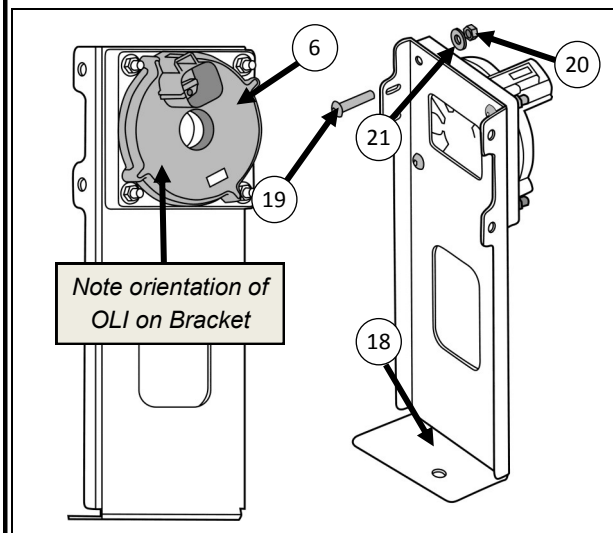

Figure 10: Install OLI onto Bracket
- Install OLI (Item 6) in correct orientation as shown in Figure 10 onto OLI Bracket (Item 18) using 4X Screw M5 x 0.8P x 25 (Item 19), 4X Washer Flat M5 (Item 21) and 4X Nut M5 Nyloc x 0.8P (Item 20)
NOTE:	Ensure that the OLI is installed in the correct orientation as shown in Figure 10